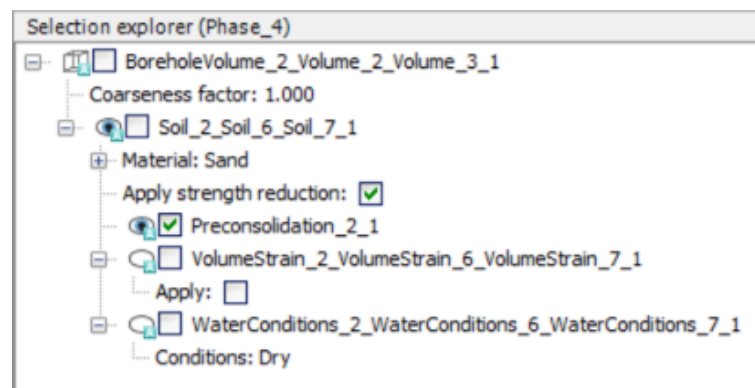

Figure 2-6: Water conditions in the Selection explorer
- 16  In the **Selection explorer** under **WaterConditions** feature, click on the **Conditions** and select the **Dry** option from the drop-down menu as in Figure 2-6 \(p. 52\).